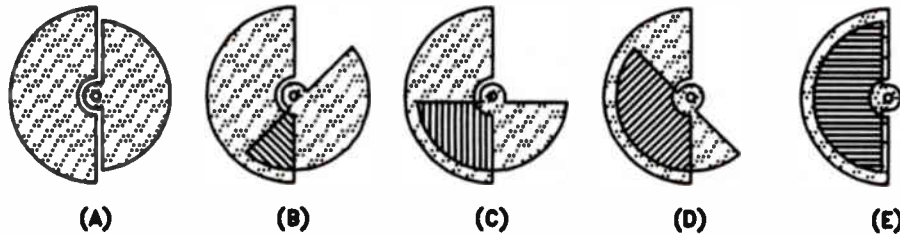

Figure 8. How a variable capacitor with straightline capacitance plates works.
Figure 8 shows what happens as we turn the rotor inside the stator. Remember, we said that one factor that affects the capacitance of a capacitor is the area of the plates. In the illustration shown in Fig. 8(A), the area of the rotor that
is opposite the stator is extremely small. The only area affected is the edges of the two plates. There is a small capacitance between the edge of the stator and the edge of the rotor. As the capacitor turns to the position shown in Fig. 8(B), about one quarter of the rotor plate is opposite the stator plate. The capacitance is much greater than at Fig. 8(A). In Fig. 8(C) about half the rotor is opposite the stator, in Fig. 8(D) about three-fourths, and at Fig. 8(E) the entire rotor is meshed inside the stator so that there is maximum capacitance.
In the capacitor shown in Fig.8, there is just one rotor plate and one stator plate. In the capacitor shown in Fig.7, notice that there are a number of plates on both the rotor and on the stator. By using a number of stator and rotor plates, we can get a much higher capacitance capacitor because the area of the plates is increased.